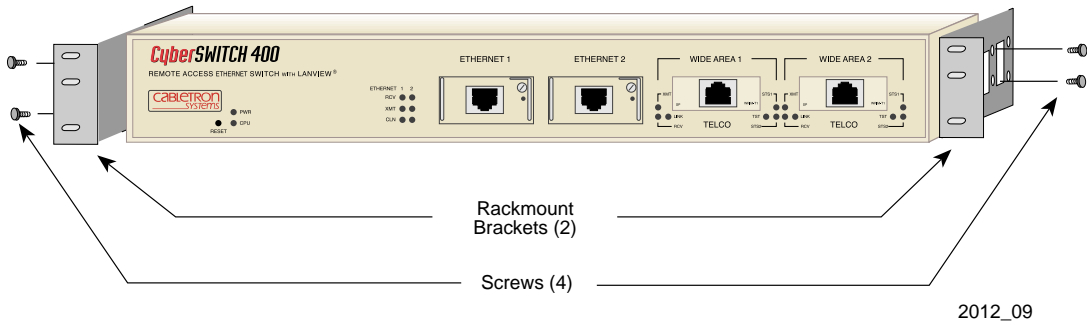

Figure 17 Installing the Rackmount Brackets
Refer to **Figure 17** and proceed as follows to attach the rackmount brackets:
- Using the four 6-32 x 1/4 inch flat-head screws, attach the rackmount brackets to the sides of the CSX400 as shown in **Figure 17**.